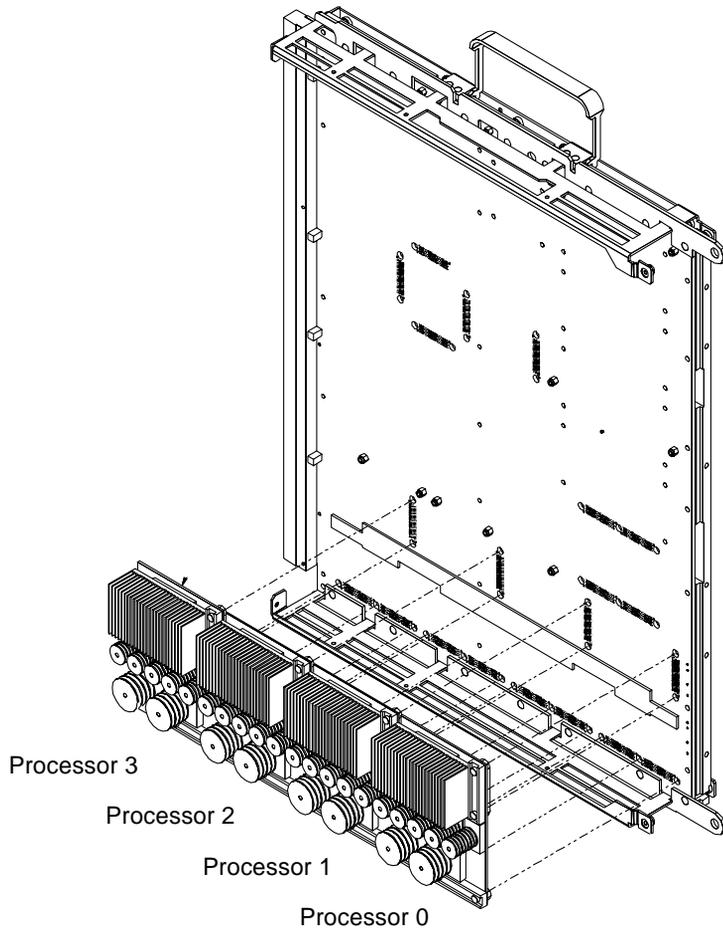

FIGURE 1 Replacing System Board Processor Module
2. **To remove the processor module, lift up and away from obstructions and place on a flat, ESD-protected surface with the connector side up(FIGURE 1).**